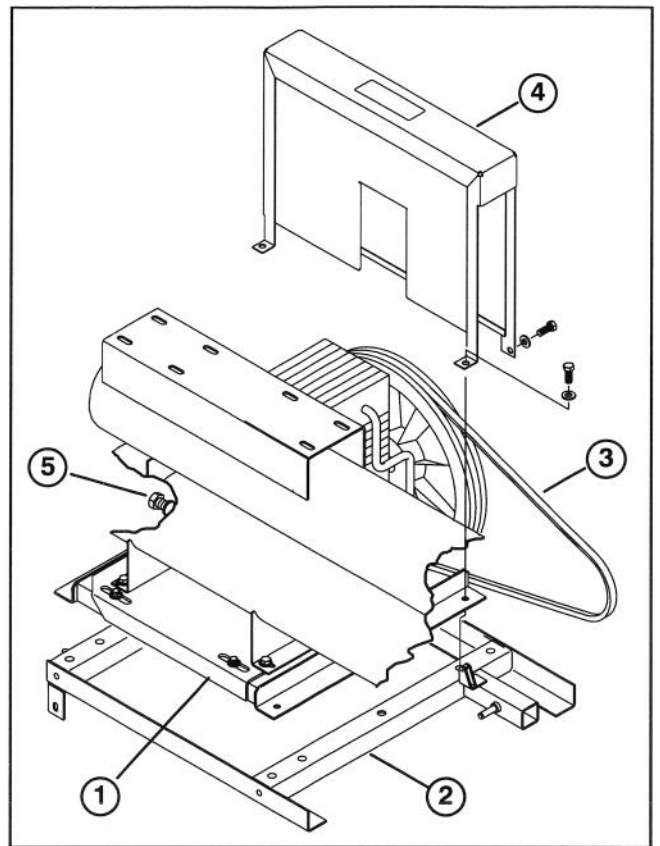

Figure 1
1. Position compressor onto power platform aligning frame mounting holes with holes in platform (Fig. 1).
3. Install belt around compressor flywheel and power platform jackshaft pulley (Fig. 1).
4. Install belt shield over flywheel and belt, while aligning mounting holes with holes in compressor frame and and platform (Fig. 1).
5. Secure belt shield and compressor frame to platform with (4) 3/8-16 x 1" lg. capscrews and flatwashers (Fig. 1).